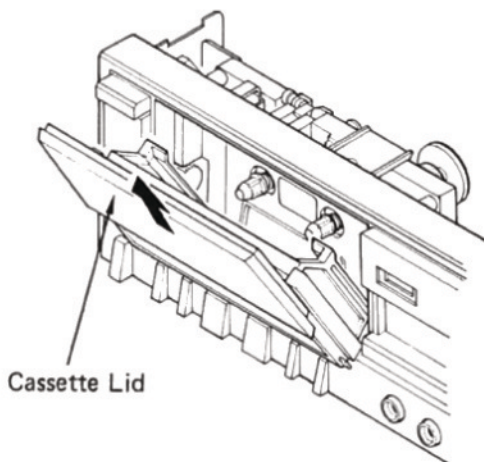

Fig. 1
1. Remove the Cassette Lid. (Fig. 1)